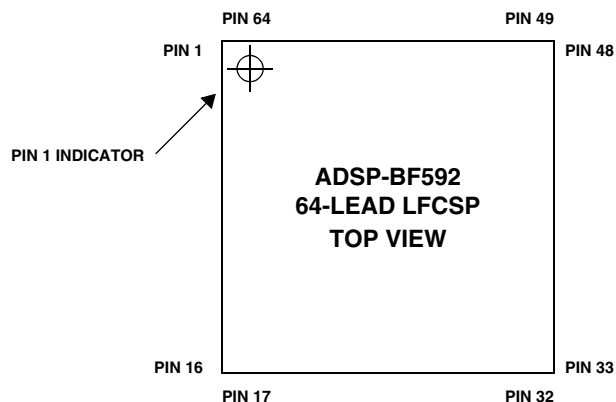
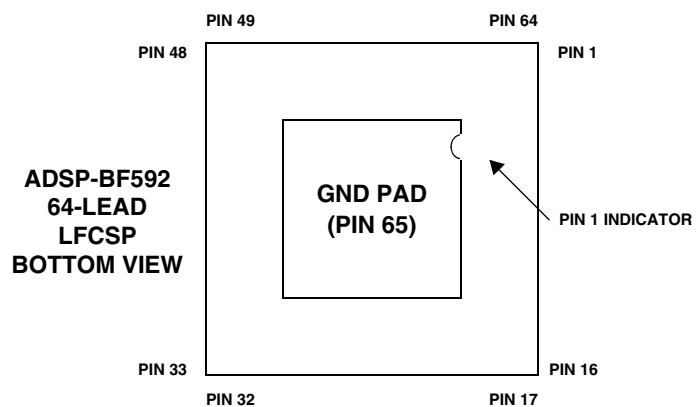

Figure 42. 64-Lead LFCSP Lead Configuration (Top View)
Figure 43. 64-Lead LFCSP Lead Configuration (Bottom View)
* Lead no. 65 is the GND supply (see Figure 42 and Figure 43) for the processor (6.2 mm × 6.2 mm); this pad **must** connect to GND.
* Pin no. 65 is the GND supply (see Figure 42 and Figure 43) for the processor (6.2 mm × 6.2 mm); this pad **must** connect to GND.
Figure 42 shows the top view of the LFCSP lead configuration. Figure 43 shows the bottom view of the LFCSP lead configuration.